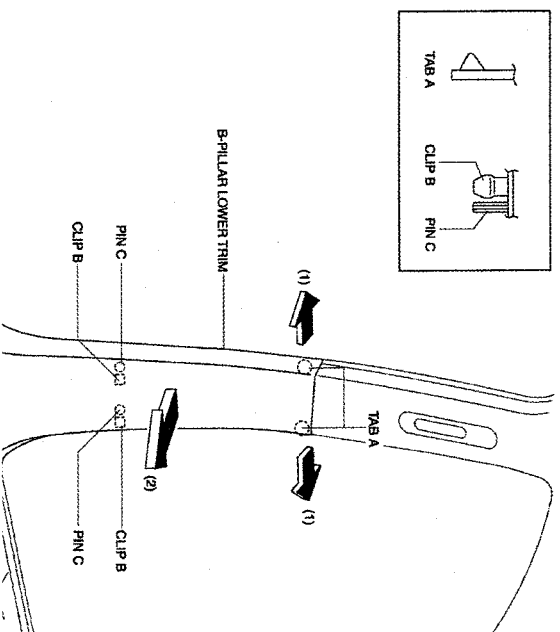

FIGURE 33
- 2.) PULL THE B-PILLAR LOWER TRIM IN THE DIRECTION OF ARROW (1) AND (2). DETACH TABS A, CLIPS B AND PINS C. (SEE FIGURE 33)
- 3.) REMOVE THE B-PILLAR LOWER TRIM. (SEE FIGURE 33)
- 2.) REMOVE THE BOLT THEN REMOVE THE FRONT SEAT BELT FROM B-PILLAR. (SEE FIGURE 33)